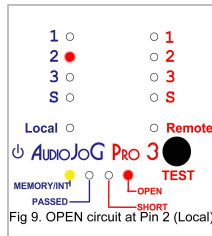

Fig 9. OPEN circuit at Pin 2 (Local)
- b) An open connection was found, usually indicated by a single LED (Fig9.).